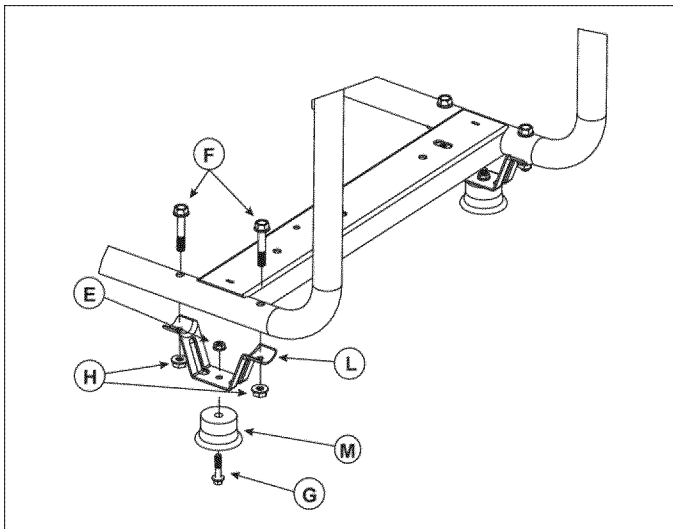

Figure 2-2. Frame Foot Assemblies
1. Install the Frame Foot Assemblies as shown (Figure 2-2).
- Slide the M8 Hex Bolts (F) through the holes in the Frame Rail.
- Slide the Frame Foot (L) onto the Hex Head Bolts. Then install the Locking Flange Nuts (H). Tighten securely using a ratchet, 12 mm socket and 13 mm wrench.
- Slide the M6 Hex Bolt (G) through the Rubber Foot (M) and Frame Foot (L). Then install M6 Hex Flange Nut (E). Tighten securely using 10 mm wrench and 8 mm socket.